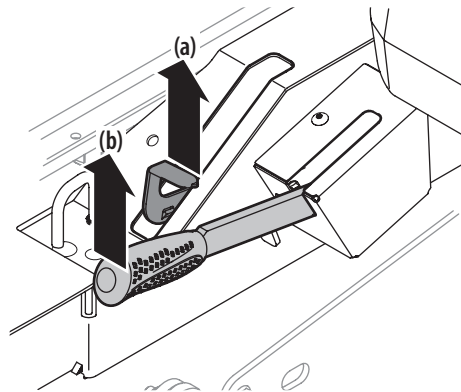

Figure 2-2
- Engage the transmission bypass valves by pulling the bypass lever (a) outward then upward and all the way back. See Figure 2-2.